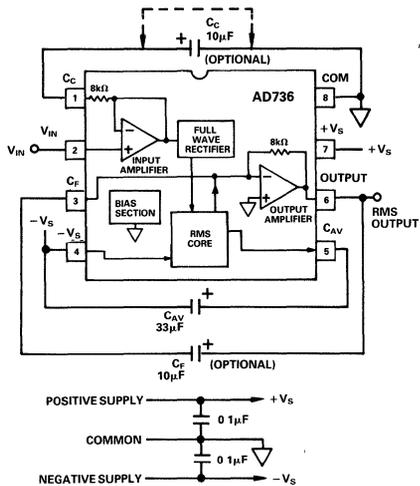

Figure 1. True rms Connection
- ¹Accuracy is specified with the AD736 connected as shown in Figure 1.